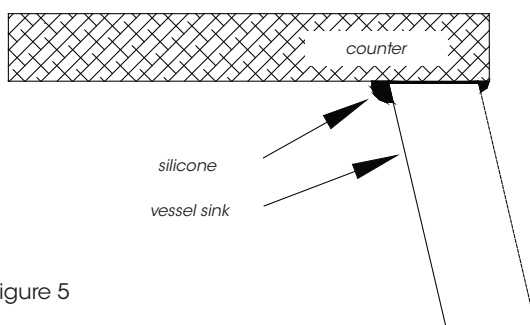

Figure 5
- Place the sink underneath the counter and press up to ensure there is a good adhesion between the 2 surfaces that are touching. (Figure 5)